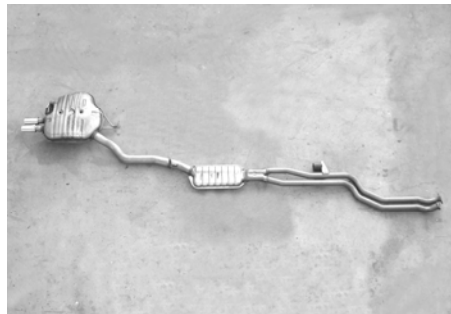

Figure 5
5. Using a muffler stand or an additional person to hold the exhaust system up in position, remove the hangers from the rubber brackets and remove the exhaust system shown in figure 5 from the vehicle.